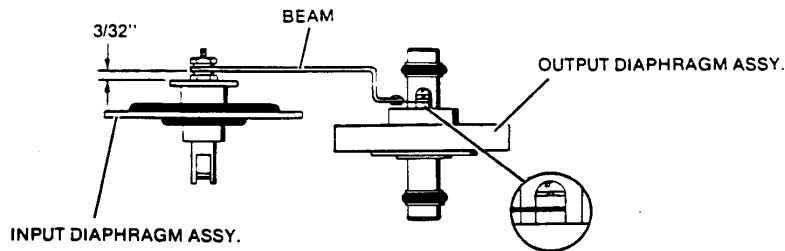

FIGURE 5-3 Diaphragm and Beam Assembly
4. Install the beam after the input and output diaphragm assemblies have been installed and securely tightened. Torque the two screws that hold the beam to the Output Diaphragm Assembly to 2.0-2.5 in. lbs. Set the height of the beam, per Figure 5-3, before locking the small jam nuts on the input diaphragm assembly (the $3/32$ " dimension is a starting point and may have to be adjusted up or down if calibration cannot be achieved).